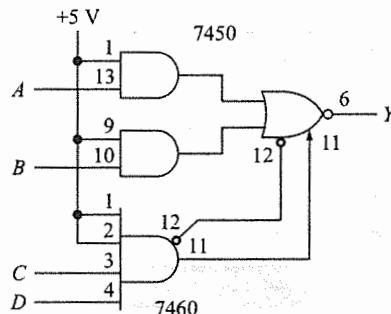

Fig. 14.51
- 14.21 What is the value of  $Y$  in Fig. 14.51 for each of these?